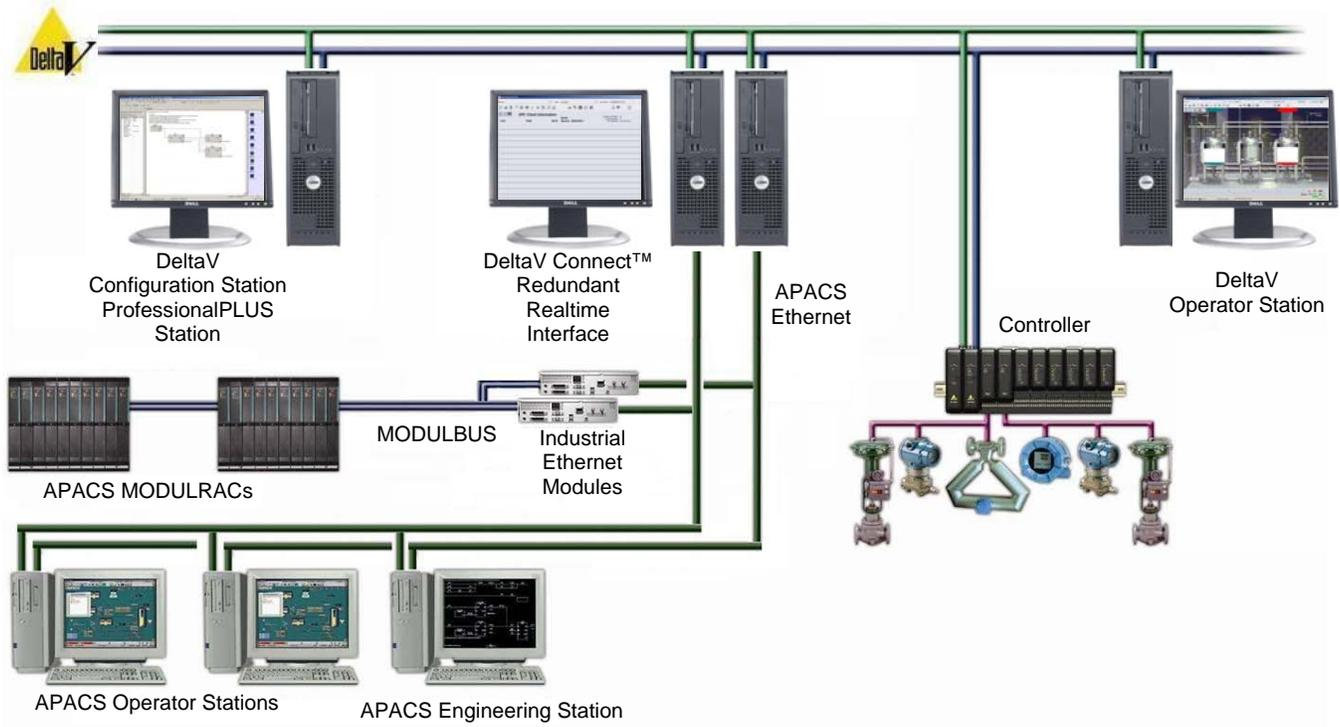

Figure 2. DeltaV Connect™ Solution for Moore® Systems, Redundant Architecture
- 1) Ethernet to a Modulbus to Ethernet gateway, such as the Industrial Ethernet Module (IEM) from the DeltaV Application Station. The Modulbus to Ethernet gateway can be set up in a simplex or redundant configuration to complement the option for redundant DeltaV Application Stations, shown in Figure 2: